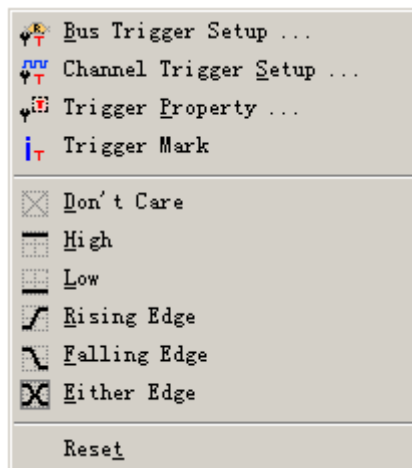

Fig 4-15 -Trigger Menu
Step 1. Click  icon or click Bus Trigger and Trigger Mark from the Trigger on the Menu Bar. The menu will appear as shown in Fig 4-15.